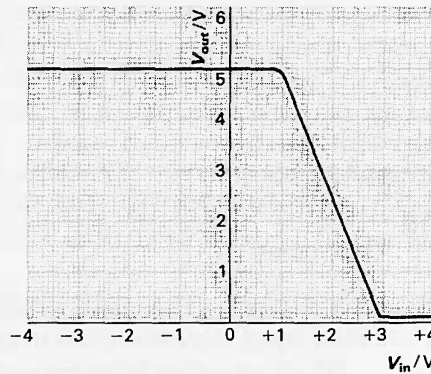

Figure C85
- 34(R)** The graph in figure C85 shows how, for a self-contained inverter, the output voltage  $V_{out}$  changes when the input voltage  $V_{in}$  is varied over a range from  $-4\text{ V}$  to  $+4\text{ V}$ .
- a** The inverter is shown in figure C86. Copy the drawing and add the input and output circuits which could have been used to obtain the values of  $V_{in}$  and  $V_{out}$  used in plotting the graph in figure C85. Label your added circuit components.